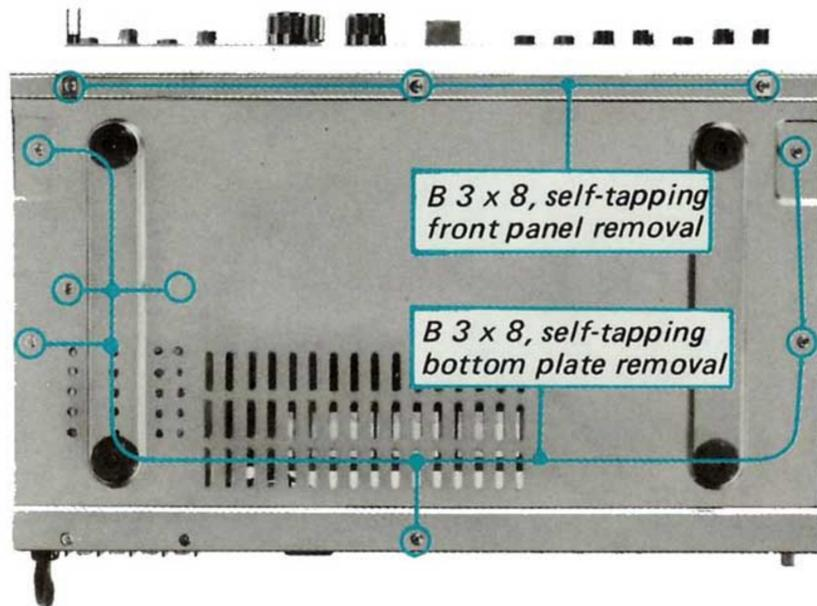

Fig. 2-1. Bottom view
1. Remove the seven screws shown in Fig. 2-1.
3. Remove the six screws from the front top and bottom of the front panel as shown in Fig. 2-1 and 2-2.